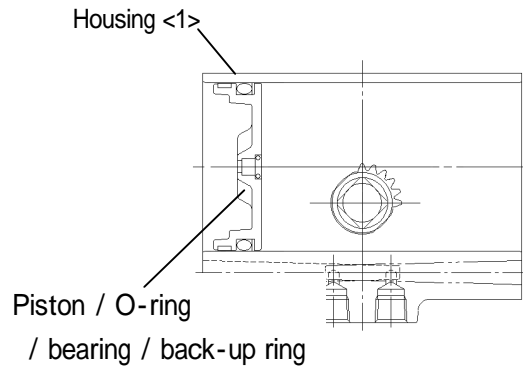

Fig.13
(5) Lubricate the internal surface of the housing and assemble the piston (complete with O-rings, a bearing and a back-up ring) with the housing (Fig.13).